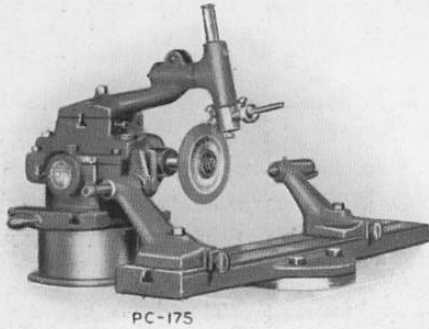

Fig. 61
**Angular Wheel Truing Attachment.** The Angular Wheel Truing Attachment was developed for accurately truing and setting the wheel for grinding spiral hobs, special form cutters and similar tools without the use of a special machine. Since these cutters are form relieved, they must be ground on the face of the teeth, the spiral being obtained from a master guide. The master guide must be of the same number of teeth and the same spiral angle as the cutter. To set up, proceed as follows: (See Fig. 61)